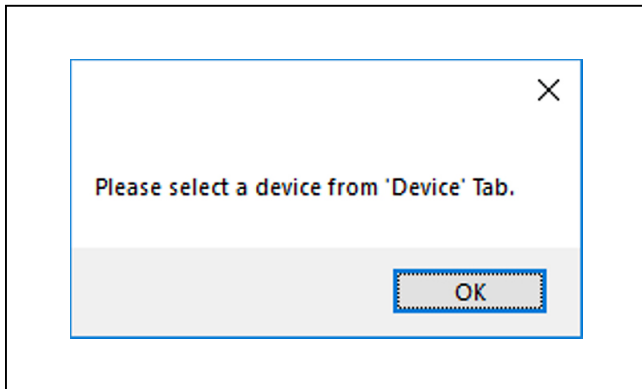

Figure 4. MAX4147XEVKIT GUI Device Selection Reminder
- 6) The pop-up window will ask to select a device from the **Device** tab to get started; click **OK** as shown in Figure 4.